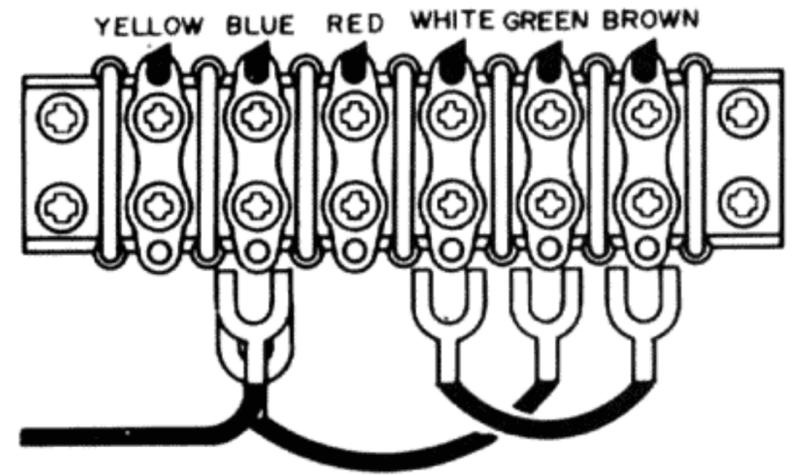

**Figure 3. Remove the Terminal Cover**
2. Remove the Transformer Wire Connection Terminal Cover, loosen two Cover mounting screws on the rear panel, see Fig.3 .